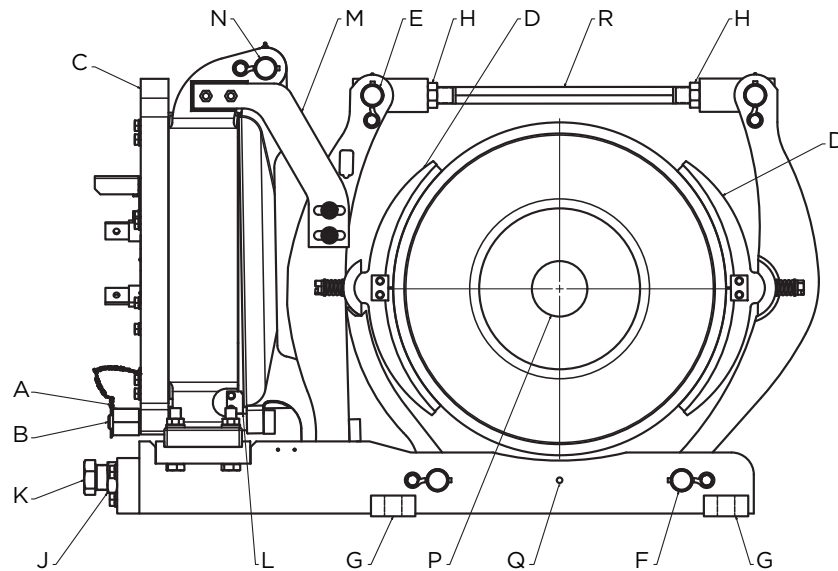

Figure 1: Brake Installation
- See Figure 1 for parts identified by a letter, e.g., "(G)"
- See **PARTS LIST** page 9 for any parts referenced by number, e.g., (50) and not referenced by letters.
5. Check that the brake has been manually released by removing the Cotter Pin (A) from the Manual Release Nut (B) and tightening the manual release nut (B) until the armature is **completely closed**. **SEE WARNING!**
This section describes the adjustment of the brake torque, armature gap, and shoe clearance. Letters in parentheses refer to Figure 1 on page 3
Replace the brake linings using the following procedures (refer to Figure 1):